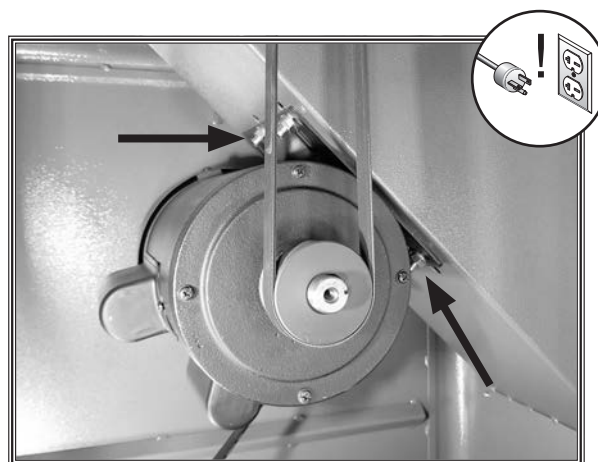

Figure 64. Location of motor mount fasteners (3 of 4 shown).
3. Loosen motor mount fasteners shown in **Figure 64**. DO NOT completely remove motor mount fasteners.
4. Press down on motor to keep tension on belt, and then tighten motor mount bracket fasteners (see **Figure 64**).
3. Loosen motor mount bracket fasteners shown in **Figure 64**.